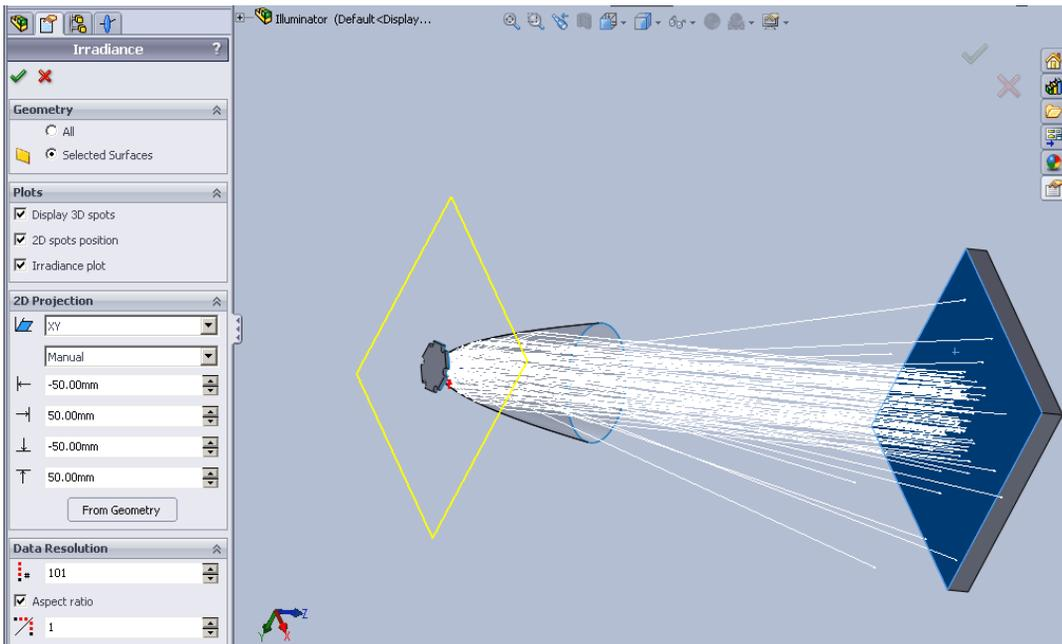

Figure 83 Irradiance PropertyManager (left) and irradiance graphic (right)
- 6 Click  to accept the changes and perform the calculation. See Figure 83.